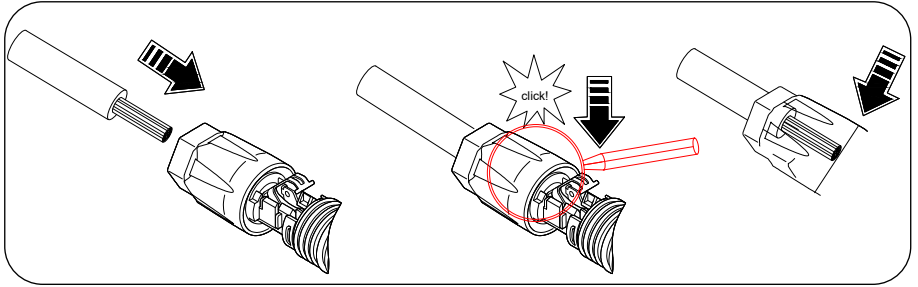

Figura 15
3. Insert the stripped wire with twisted litz wires all the way in. The wire ends have to be visible in the spring. And then close the spring (Figura 15).